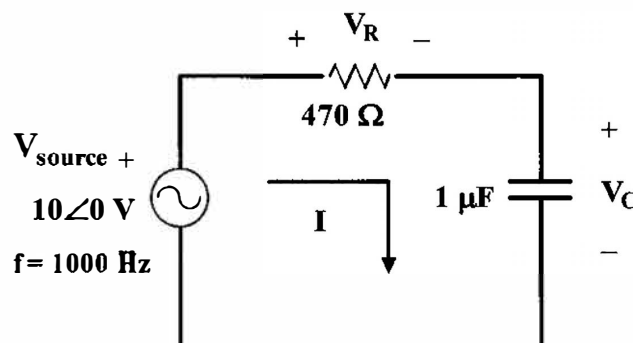

Figure 1.23: Circuit for Part 3LE.
- Connect (build) the circuit shown in Figure 1.23